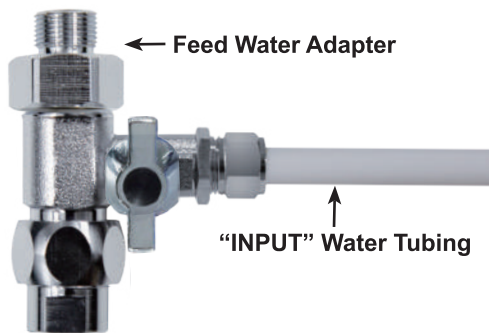

Figure 11
- Identify the white 3/8" PE tubing which has been attached to the feed water adapter (Figure 11);